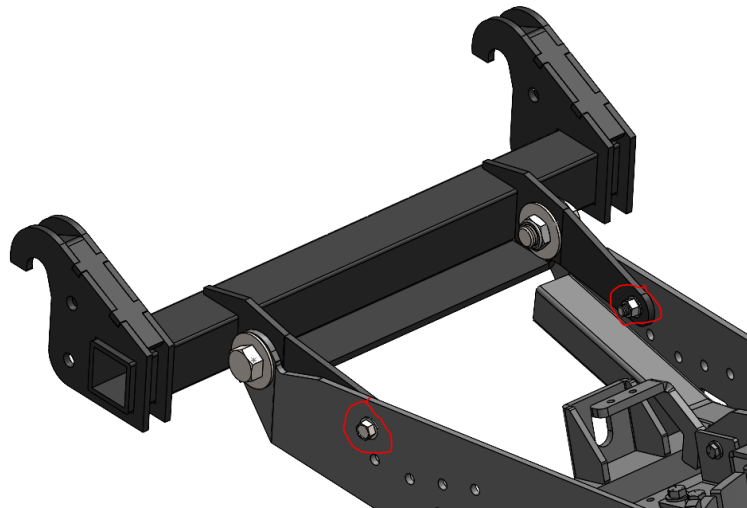

Figure 3
3. Insert the 3/8"-16x1.25" Flange Bolts into the top-most 3/8" hole in the pushtube and through the slotted holes on the MA11752A Plow Mount. Loosely thread one 3/8"-16 Flange Nut on each 3/8"-16x1.25" Flange Bolt. At this point, tighten all 4 bolts evenly until completely tight. Ensure the arms of the MA11752A Plow Mount touch the sides of the pushtube where the 3/8"-16x1.25" Flange Bolt is (Circled area in Figure 3).